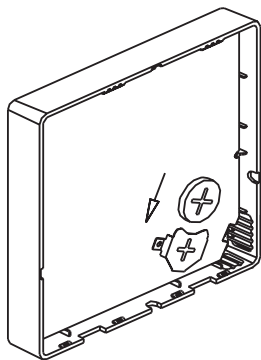

Fig 3-7
- Put the battery into the installationsite and make sure the positive side of the battery is in accordance with the positive side of installationsite.(See Fig.3-7)